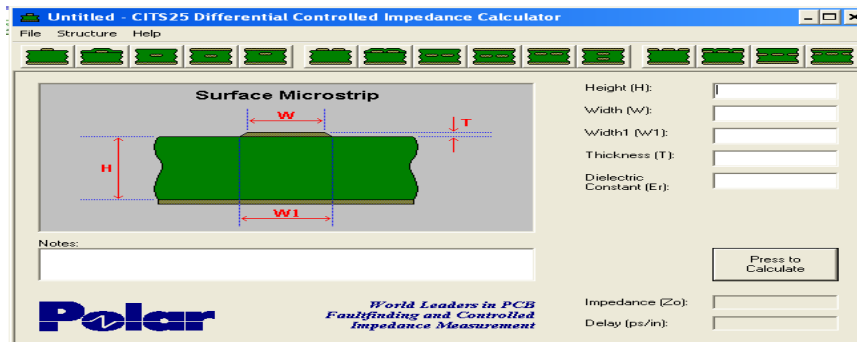

Fig. 2: Tool from Polar for trace width calculation
The width of the trace (W) is defined by various parameters as shown in the diagram. To enable engineers to perform this calculation, there are tools or calculators which help in designing. In general, wider traces are better, but to maintain a 50 ohm impedance for single end and a 100 ohm for differential pairs, along with a constraint on Board space and layers, we will need to trade off on the wider trace widths. Fig. 2 is a snapshot of the commonly used tool for trace width calculation.